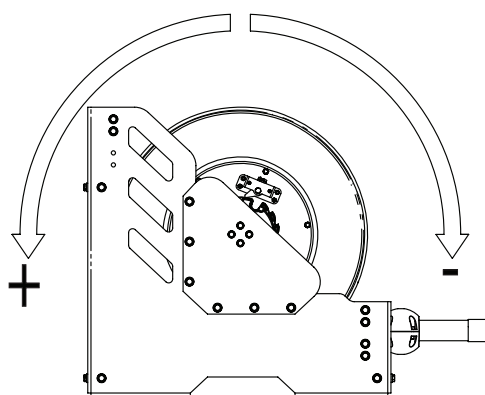

Fig. 6
3. Once the hose is completely wound around the spool (the power springs still will be with no tension), apply the pretension to the power springs by turning the spool the number or turns stated in the table depending on the hose length (see table), turning in positively direction as shown in (fig. 6). Do not apply more tension than stated, as the power springs could be damaged.
6. Apply the pre-tension to the power springs by turning the spool towards positive direction, the number of turns indicated in (fig. 6), depending on the hose length. Do not apply more tension than stated, as the power spring could be damaged.